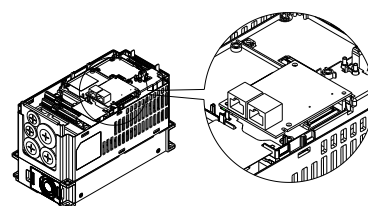

Figure 6
- Release the other card clip to remove the PCB (see Figure 6).